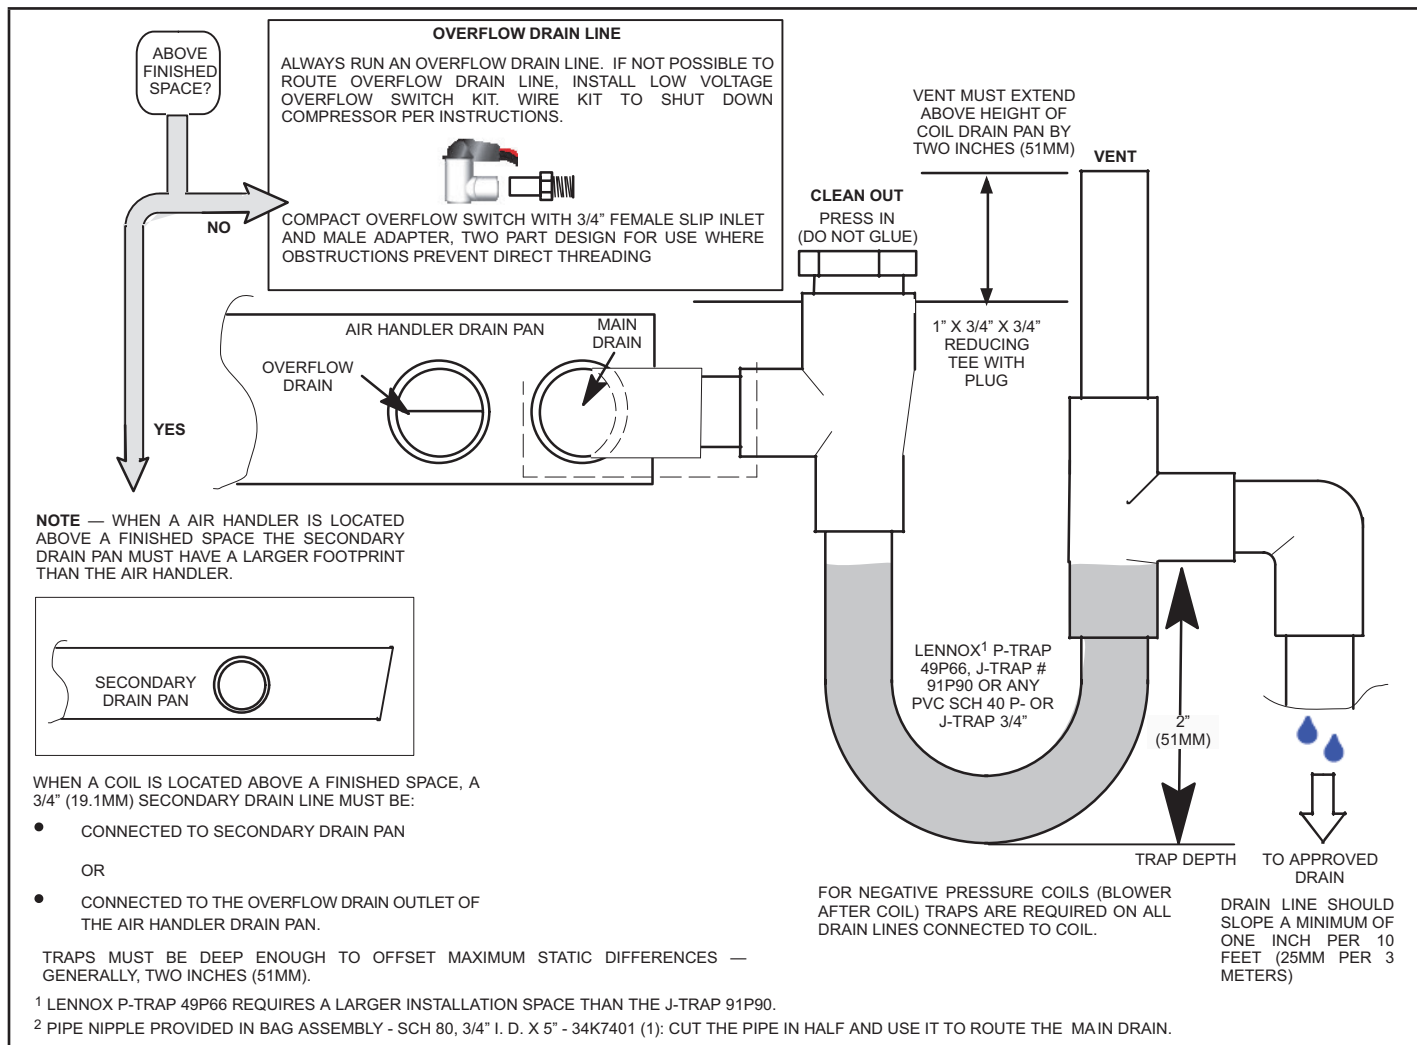

FIGURE 12. Typical Main and Overflow Drain
- 6 - Install a 2" trap in the main (primary) drain lines as close to the unit as practical (see FIGURE 12). Make sure the top of the trap is below the connection to the drain pan to allow complete drainage of the pan.